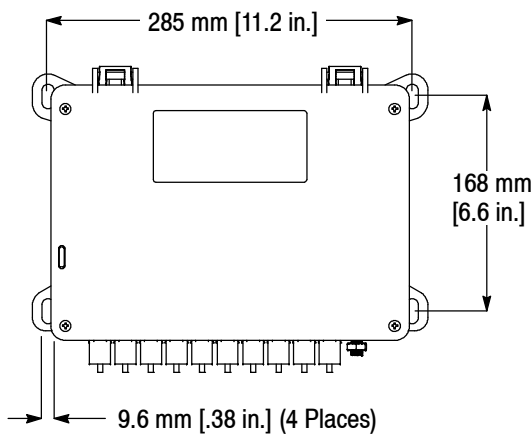

Figure 2
2. Mount the combiner box onto a planar surface using the mounting slots (DO NOT drill holes into the combiner box) and appropriate hardware: stainless steel ¹/₄- or ³/₈-in. bolts or screws with washers. See Figure 2 for mounting dimensions.